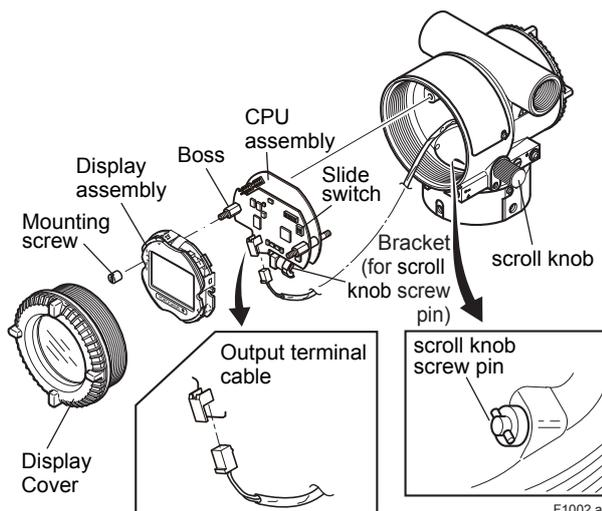

Figure 10.2 Removing and Display Assembly and CPU Assembly
This subsection describes the procedure for replacing an display. (See figure 10.2)
This subsection describes the procedure for replacing the CPU assembly. (See figure 10.2)
- 2) Turn the Scroll knob screw to the position (where the screw head slot is horizontal) as shown in figure 10.2.